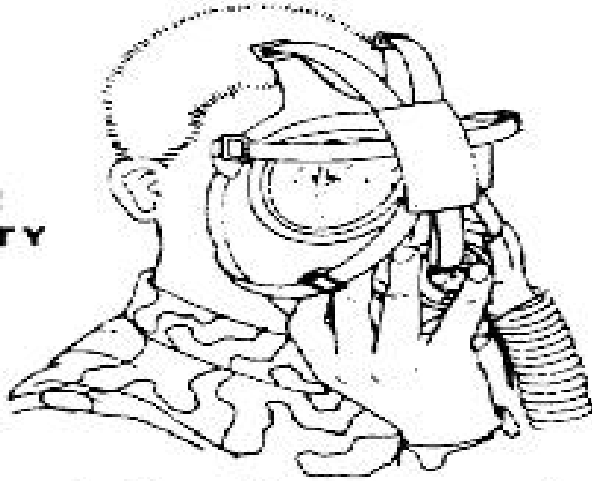

Figure E-72. Clear protective mask.
- j. Cover the openings at the bottom of the outlet valve with the palm of your hand (figure E-72).